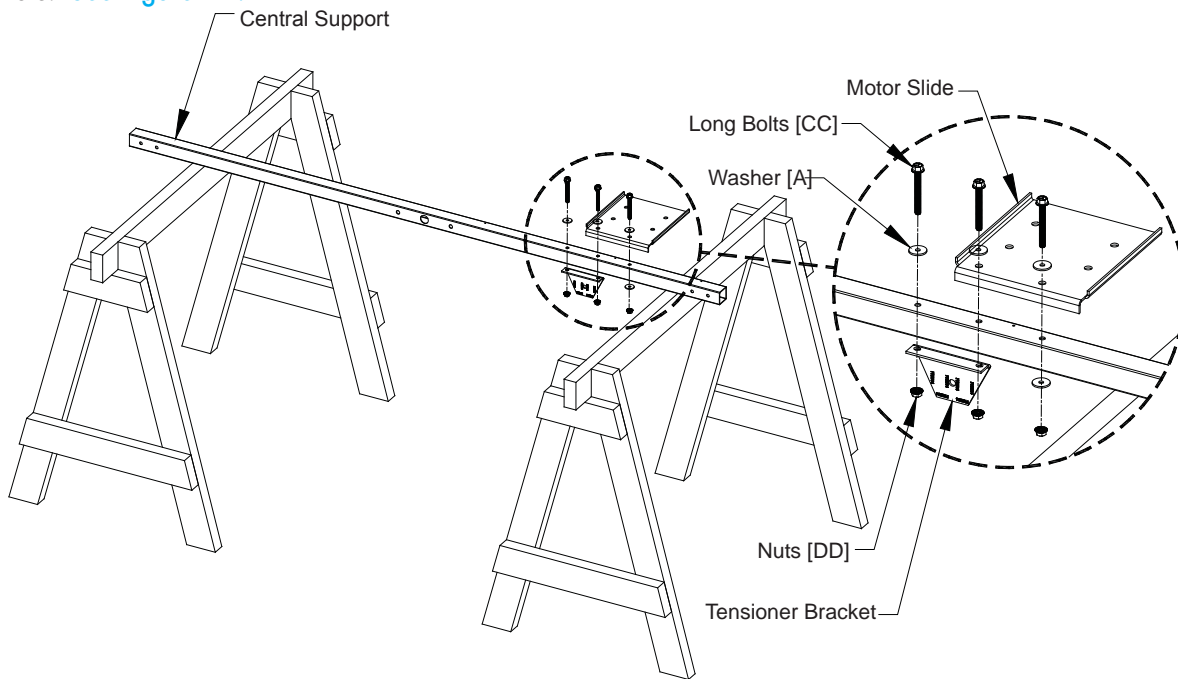

Figure 2A
Place the Central Support on saw horses or a flat work surface. The large center hole should be pointing horizontally. Attach the Motor Slide and the Tensioner Bracket to the Central Support using (3) Long Bolts [CC], (4) Washers [A] and (3) Nuts [DD]. The Motor Slide and the Tensioner Bracket share the middle hole. See Figure 2A.